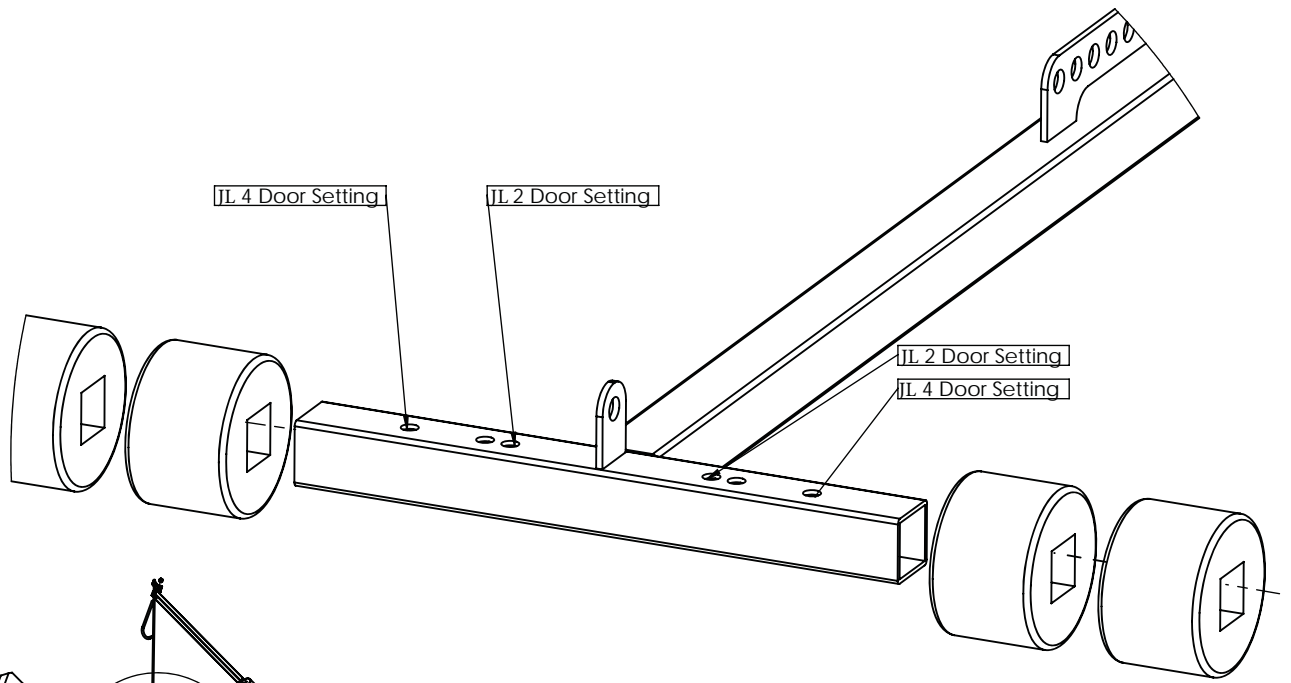

Fig. 3
- A. Locate the two support arms (HAT-101) into the T-shaped bar (HAT-100) moving the spring button to the appropriate holes as shown in Fig. 3